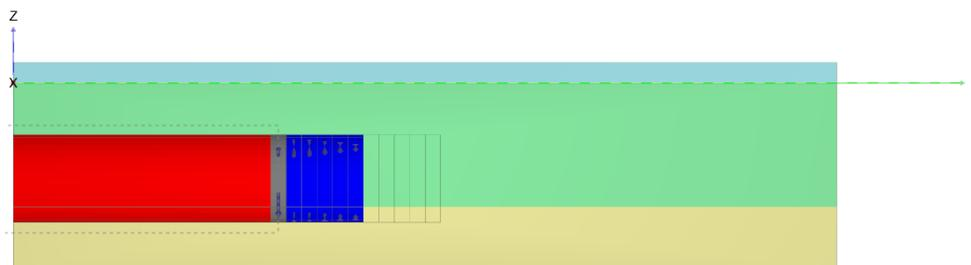

Figure 89: Selection of plate (0 m - 25 m)
- a. Select the **Select plates** option in the appearing menu. Select the surfaces between 0 m and 25 m in the model to which plates are assigned (Figure 89: Selection of plate \(0 m - 25 m\) (on page 110))